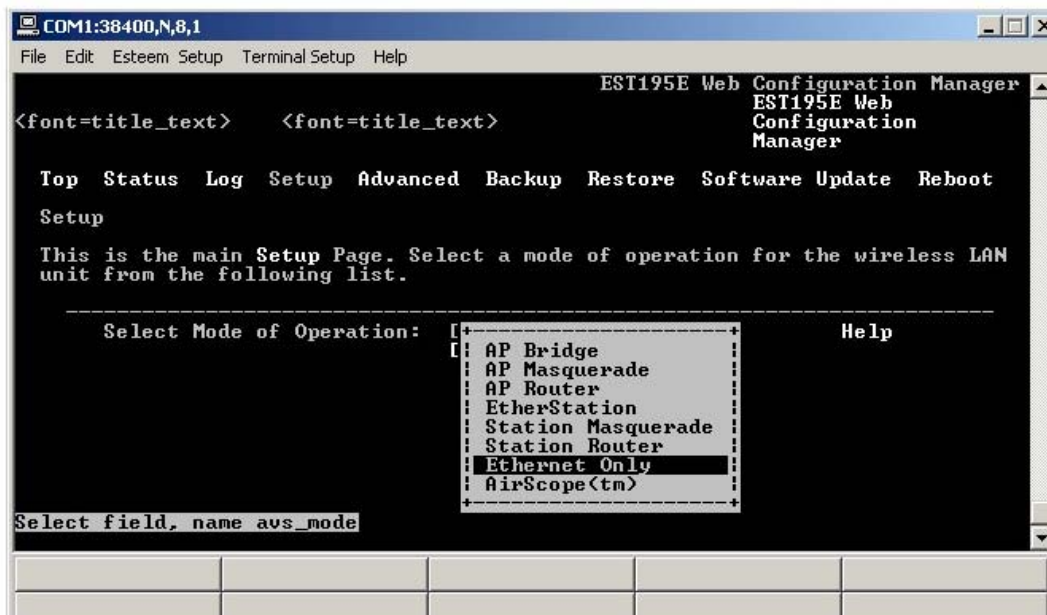

Figure 12: Setup Ethernet Only Screen
12. Press the Down Arrow key until the SETUP menu item is highlighted and press Enter. Again press the Down Arrow key until the Mode of Operation is highlighted and press Enter again to bring up the mode selection menu (Figure 12).